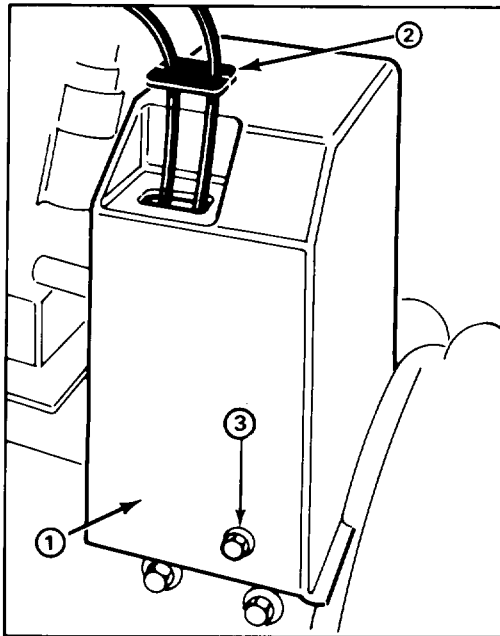

Figure 20
1. Remove (3) flange head capscrews securing belt cover to engine frame and slide belt cover up cables (Fig. 20).